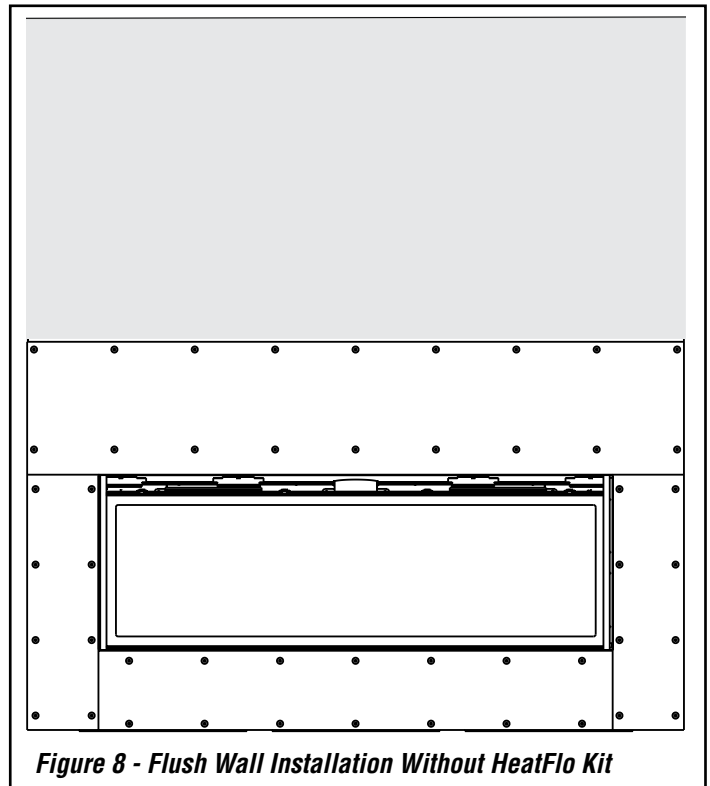

Figure 8 - Flush Wall Installation Without HeatFlo Kit
14. Once the fireplace is installed in the framing, install the nailing flanges. Loosen (DO NOT REMOVE) the three (3) hex head mounting screws on both sides of the fireplace shown in **Figure 8**. Slide the nailing flange onto those screws on both sides, with the bottom most slot going onto the bottom most screw. Once in place, using a 5/16" wrench, tighten the mounting screws through the access holes in the nailing flange (see **Figure 8, Page 4**).
1. Using 1" self drill bugle drywall screws (supplied), install non-combustible fireboard at bottom, sides and top of fireplace face (**See Figure 8**).